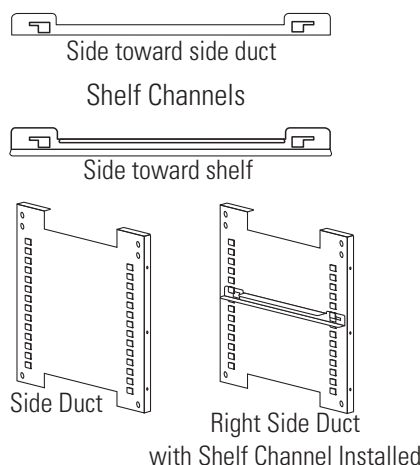

Figure 1-11. Shelf Channels & Side Ducts
2. Install the side ducts with the tabs facing into the center of the chamber with their slots up. There are no right side or left side ducts, simply rotate one of them to fit the opposite side. Tilt the side ducts as they are placed into the chamber so the tops fit into the top air duct, then guide them into the vertical position. Figure 1-11 shows the side duct as it would be oriented for the right side of the chamber.
3. Referring to Figure 1-11, note that there is no difference in the left and right shelf channels.
5. Figure 1-11 shows one of the channels installed on the right side duct.